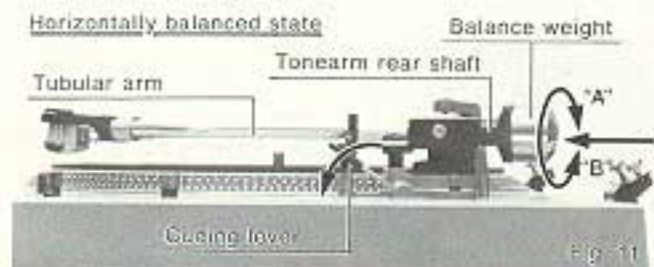

Fig. 11
⑨ Adjustments of the horizontal "0" balance and the stylus pressure
1. Insert the balance weight onto the rear shaft of the tonearm. (See Fig. 11)
4. Turn the entire balance weight clockwise (indicated by the arrow "A") or counterclockwise (indicated by the arrow "B") until the tonearm is approximately balanced horizontally. (See Fig. 11)
- 3) Ensure that the cueing lever is in the lowered position as shown in Fig. 11.